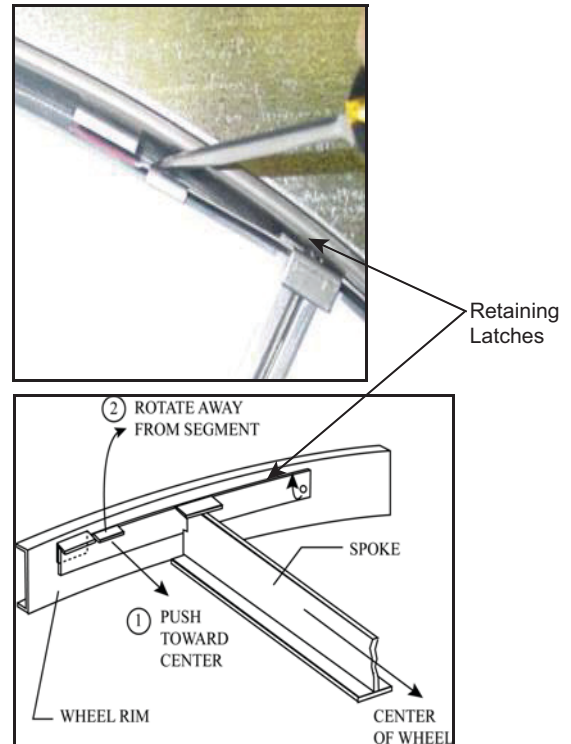

Fig. 33 – Release Retaining Latches
4. Using a flathead screwdriver, unlock and open the two segment retaining latches, at the outer corners of the segment to be removed. See Fig. 33 for example of releasing retaining latches.
2. Begin by positioning one empty segment bay at the top of the wheel and opening the two retaining latches. See Fig. 33 to release retaining latches.
4. Close the retaining latches on outer corners of segment to secure the segment inside the wheel. See Fig. 33 for example of closing the retaining latches.